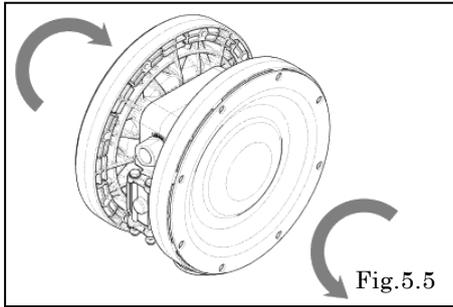

Fig.5.5
- Remove the diaphragms from both sides [Fig.5.5].